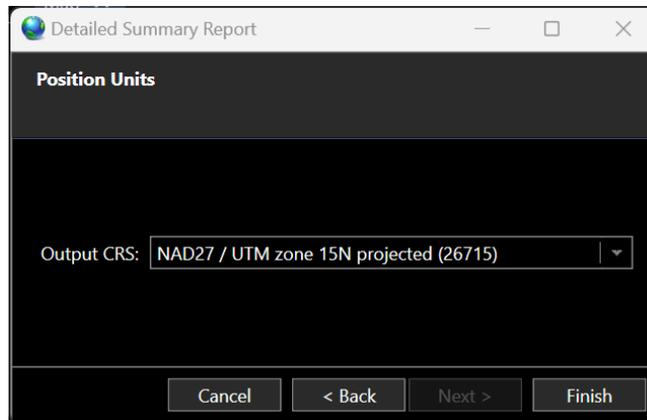

FIGURE 128 EXPORT – POSITION UNITS PAGE
4. Click Next to open the Position Units page, see Figure 128. The Output CRS of the data is chosen for any coordinate outputs; the units are determined by the Output CRS selection. The default is the Working CRS.